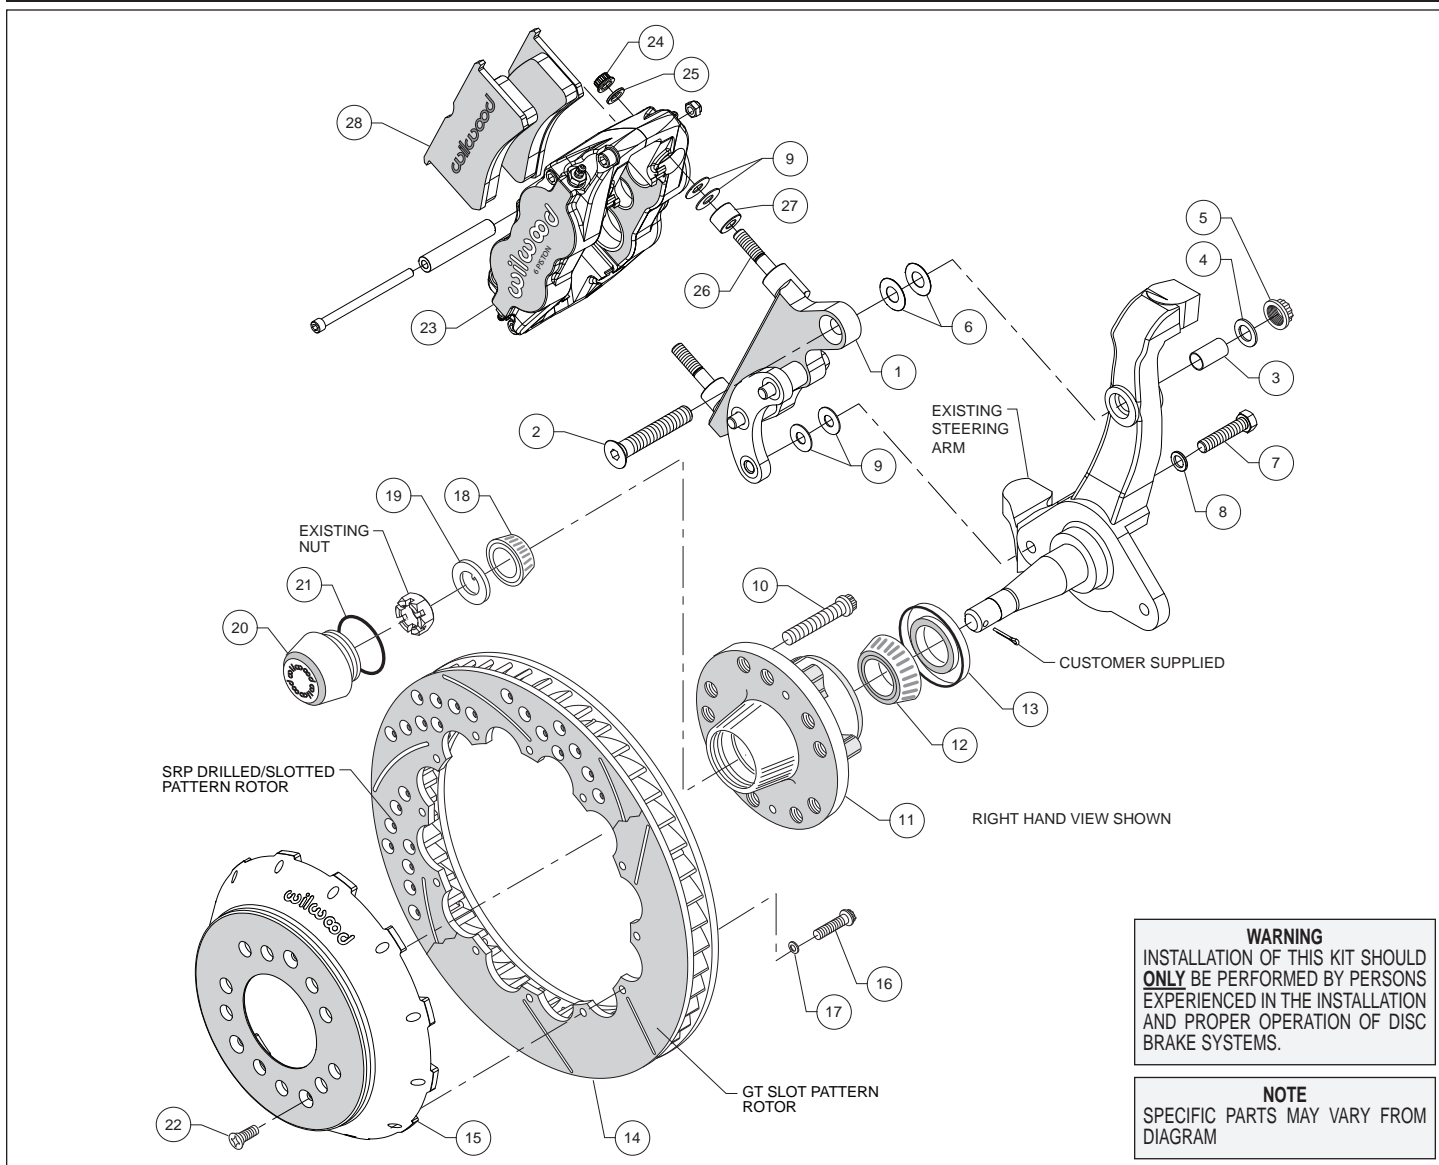

Figure 1. Typical Installation Configuration
Assembly Instructions (numbers in parenthesis refer to the parts list and Figure 1 on the preceding pages): **CAUTION:** All mounting bolts must fully engage clinch nuts. Be sure to check that all bolts are either flush or protruding through flanged side of clinch nut after shimming, Figure 4.
- The caliper bracket (1) should initially be installed with clean, dry threads on the mounting bolts. The bracket has been assembled at the factory for alignment purposes. Loosen the two bolts that secure the brackets together so that the bolts are hand tight only. This will enable the bracket assembly to be adjusted to accommodate various spindle tolerances during assembly. Insert sleeve (3) into top mounting hole on the spindle, Figure 1. Orient the bracket as shown in Figure 1 and install using bolt (2), washer (4), and locknut (5), in the upper hole, as shown in Figure 1 and Photo 1. Initially use two .032" thick shims (6) on the upper bolt between the bracket and spindle, Figure 1. Install bolt (7) and washer (8) in the lower hole, Figure 1. Initially use two .035" thick shims (9) between the bracket and spindle face. Temporarily tighten the mounting bolts, followed by the two bracket-to-bracket bolts. **NOTE:** The bracket must fit squarely against the mounting points on the spindle. Inspect for interference from casting irregularities, machining ridges, burrs, etc. Later, after the bracket and caliper alignment has been checked, the bolts will be secured using red *Loctite*® 271.
- Check that the bracket (1) is aligned parallel to the rotor (14), Photo 2, by assembling and installing the hub, hat, and rotor per the steps below. If not, parallel adjust by adding or subtracting shims (9) on the lower bolt between the spindle and bracket, Figure 1, Photo 2.
- Install wheel studs (10) into the hub (11), Photo 3. Torque to 77 ft-lb. **NOTE:** There are two five lug patterns in the hub (5 x 4.50 and 5 x 4.75). Ensure the correct hub stud pattern is being used to fit the wheel application.
- Pack the large inner bearing cone (12) with high temperature disc brake bearing grease (available from your local auto parts store) and install into the backside of the hub (11), Photo 4.
- Install the grease seal (13) by pressing into the backside of the hub (11), flush with the end of the hub, Photo 4.
- Orient the rotor (14) and the hat (15) as shown in Figure 1 and Photo 5. Attach rotor to hat using bolts (16) and washers (17). Using an alternating sequence, apply red *Loctite*® 271 to the
- Pack the small outer bearing cone (18) with high temperature disc brake bearing grease and install into hub (11). Slide the hub assembly onto the spindle. Secure using spindle washer (19) and OEM spindle nut, Photo 6. Adjust bearings per OEM specifications. Install saved OEM nut lock (if any) and a new cotter pin (not included).
- Screw dust cap (20) into hub (11), Photo 7. Friction created by the o-ring (21) on the dust cap keeps it from unscrewing. **NOTE:** *The O.D. of the existing OEM spindle washer may be larger than the I.D. of the dust cap not allowing it to seat against the hub face. Therefore, use the spindle washer (19) supplied with the kit instead of the OEM washer.*
- Slide the hat/rotor assembly (14/15) onto the hub (11) taking care to align the small countersunk holes in the hat with the small threaded holes in the hub. **NOTE:** *The hat must fit flush against the hub face or excessive rotor run out may result.* Install three flat head screws (22) through the small holes in the hat, Photo 7, and torque to 85 **in-lb**.
- NOTE:** *This kit contains distinct right and left hand calipers that must be mounted in a specific direction, as described below.* Lubricate the caliper mounting studs (26) with lightweight oil. Initially place one spacer (27), and two .035" thick shims (9) on each stud between the caliper and the bracket, as shown in Figure 1 and Photo 8. Mount the caliper (23) onto the bracket (1) using lock nuts (24) and washers (25), Figure 1. Ensure that the caliper is mounted so the largest pistons are at the rotor exit end of the caliper, in relation to the direction of rotor rotation. Temporarily tighten the lock nuts and view the rotor through the top opening of the caliper. The rotor should be centered in the caliper, Photo 9. If not, adjust by adding or subtracting shims (6 upper bolt, and 9 lower bolt) between the spindle and the caliper bracket. Always add or subtract the same amount of shims on each of the two mounting bolts to keep the bracket parallel to the rotor. **NOTE:** *The end of the lower bolt must be flush with, or slightly protruding from, the head of the clinch nut, as shown in Figure 4.* If necessary place spare shims between washer (8) and spindle to achieve the proper clinch nut engagement.